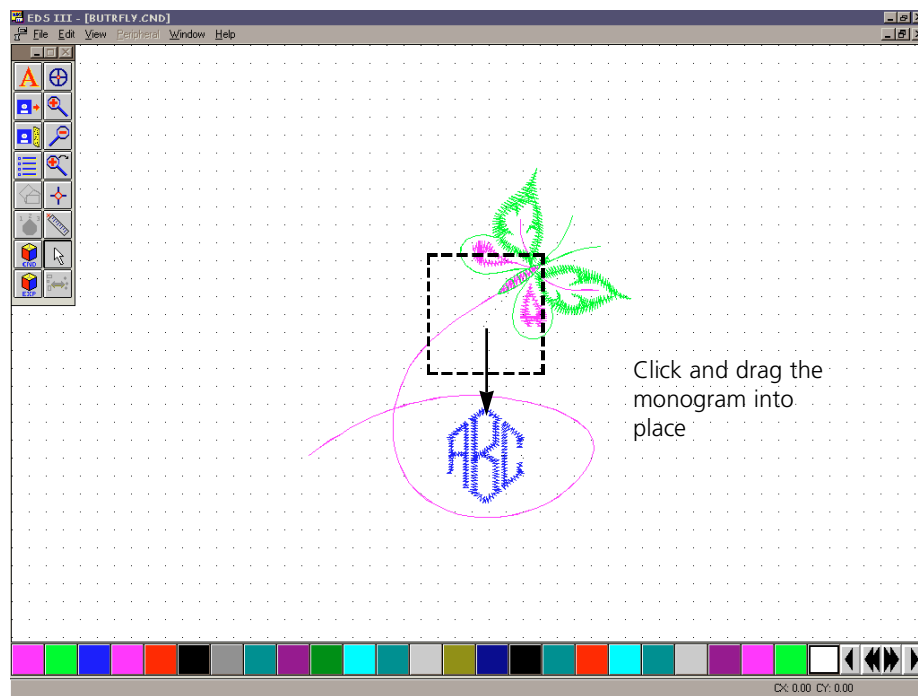

Figure 6-4
11. Click on the monogram displayed in the Layout window and drag it inside the loop of the butterfly as shown in Figure 6-4.